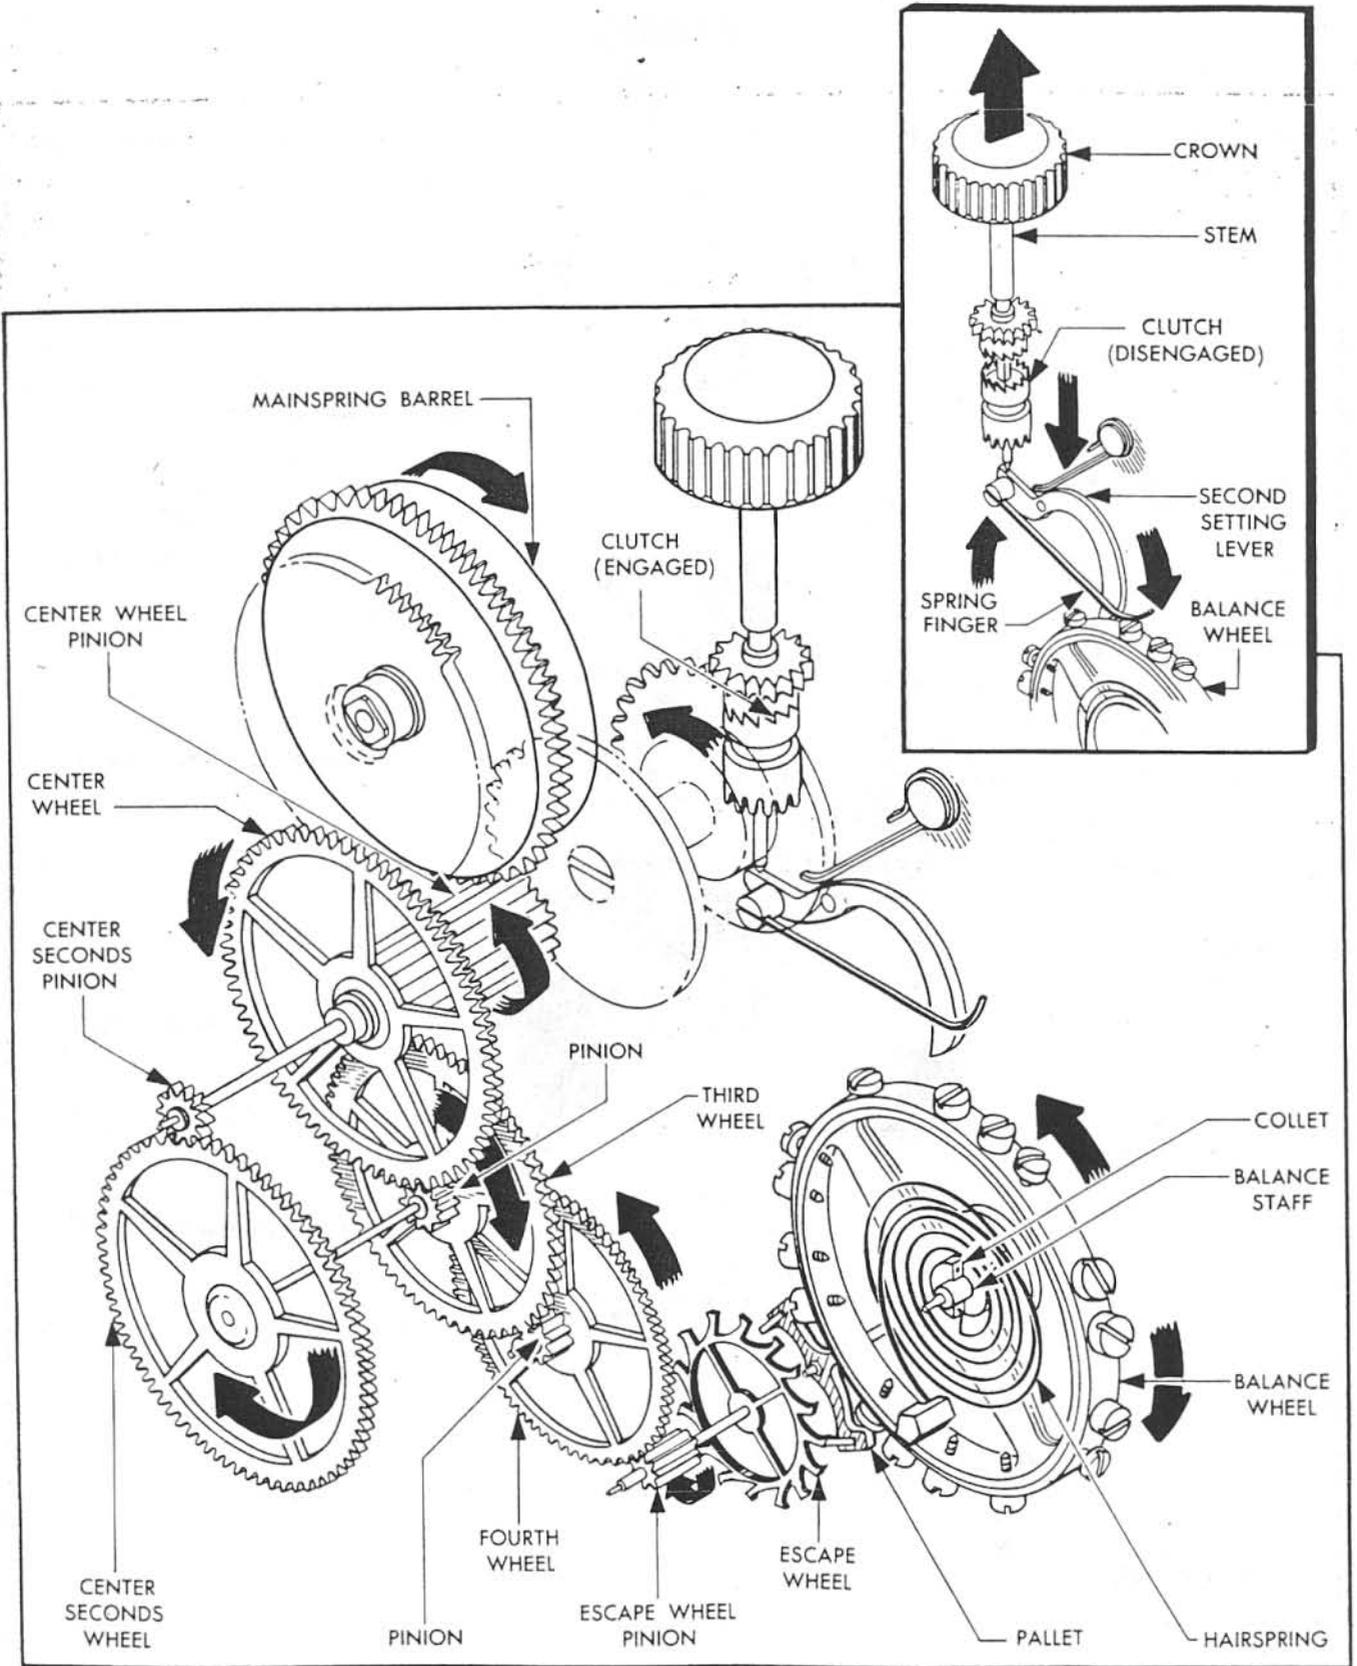

Figure 5—Schematic of Events During Running
b. RUNNING. (See figures 5 and 6.)—The teeth on the mainspring barrel engage and turn the center wheel pinion as the barrel turns under the action of the uncoiling mainspring. The center wheel makes one revolution per hour under the control of the balance mechanism.
(3) The center wheel turns the third wheel pinion as shown in figure 5. The arbor of the third wheel projects through the barrel bridge and supports the center seconds wheel. The center seconds wheel in turn meshes with the center seconds pinion whose arbor extends through the hollow arbor of the center wheel and supports the center seconds hand. Gear ratios are such that the center seconds hand makes one revolution of the dial each minute.
(4) Mesh of the third wheel with the fourth wheel pinion causes the latter to rotate in a counterclockwise direction. In turn, the fourth wheel drives the escape wheel pinion in a clockwise direction. The escape wheel is properly part of the escapement mechanism since its interaction with the pallet is the means of controlling the rate at which the mainspring is allowed to unwind. Thus, the escape wheel acts as a transmitter, allowing measured amounts of mainspring power to be released, or to escape, through the pallet to the balance assembly where it is dissipated, and at which point it is controlled and/or regulated.
(5) Before the watch is wound, when no power from the mainspring is being exerted on the escape wheel, the roller pin jewel on the balance assembly is at rest in the slot in the end of the pallet, the pallet is halfway between the two banking pins, and the impulse face of the right pallet jewel is engaged with the impulse face of one of the club-shaped escape wheel teeth.
d. SECONDS SETTING MECHANISM. (See insert in figure 5.)—The seconds setting mechanism of the master navigation watch is a special feature not normally found in pocket watches and it is therefore treated separately here. Action of this mechanism is associated with both the running of the watch and the setting mechanism.